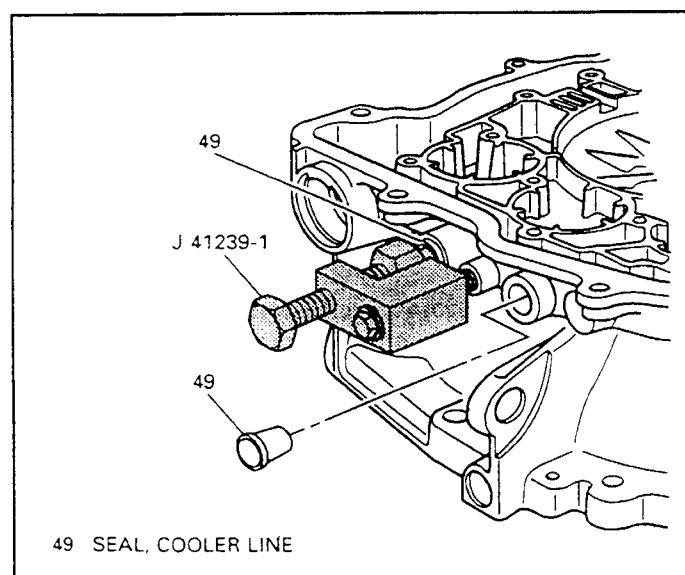

Figure 89
14. Place a new cooler line seal (49) into the case bore as shown in Figure 89.
15. Install tool J-41239-1 on the transaxle case at the cooler line bracket bolt hole, as shown in Figure 89.
16. Press the new cooler line seal in by tightening the seal pressing bolt on the tool until the seal bottoms out in the case bore (See Figure 89).